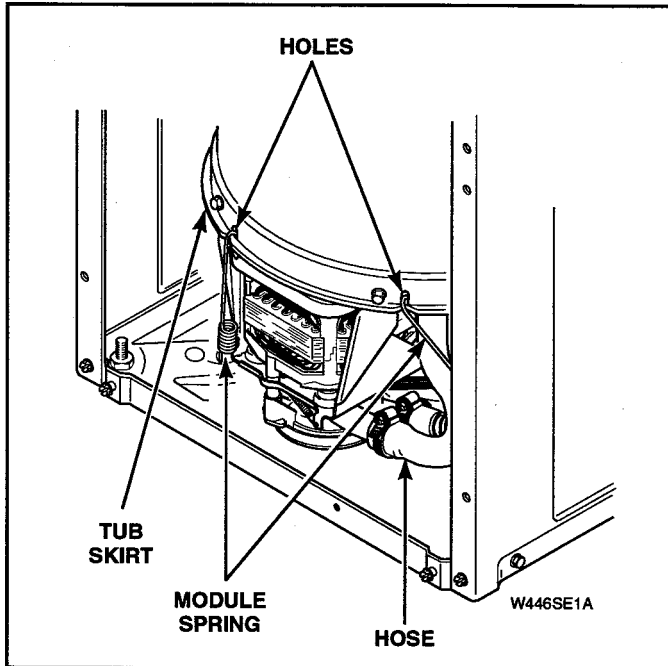

Figure 5-36
- q. Using No. 289P4 Spring Hook Tool, unhook six module springs from lower edge of outer tub. See Figure 5-36.
- h. Using No. 289P4 Spring Hook Tool, unhook six module springs from lower edge of outer tub. See Figure 5-36.